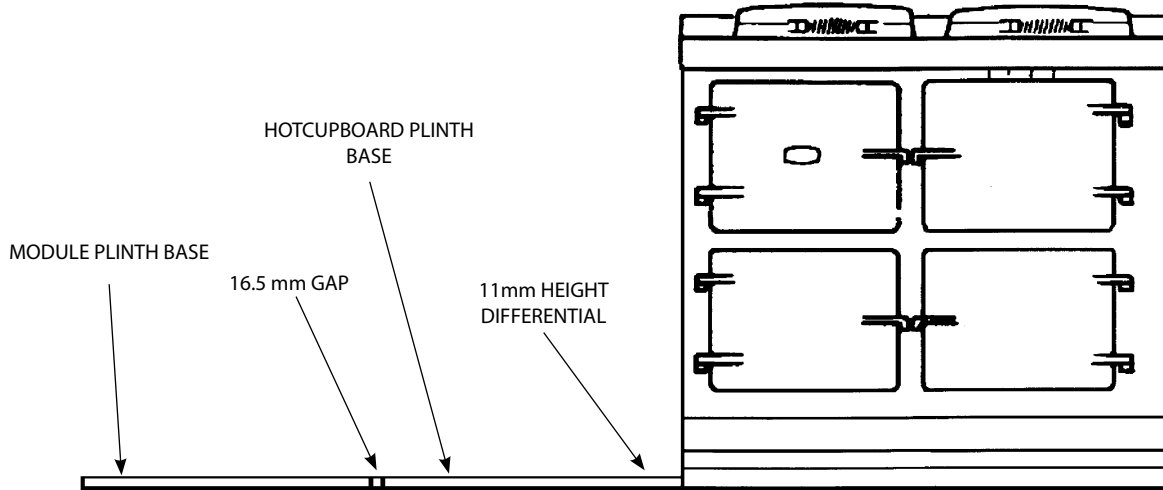

Fig. 10.4
7. Also check height differential between the Module plinth and AGA R7/eR7 plinth is correct: 11 mm. If necessary, use the adjusting studs in each corner to level the plinth. In extreme instances, shims may be used underneath the plinths (See **Fig. 10.3** or **Fig. 10.4**).